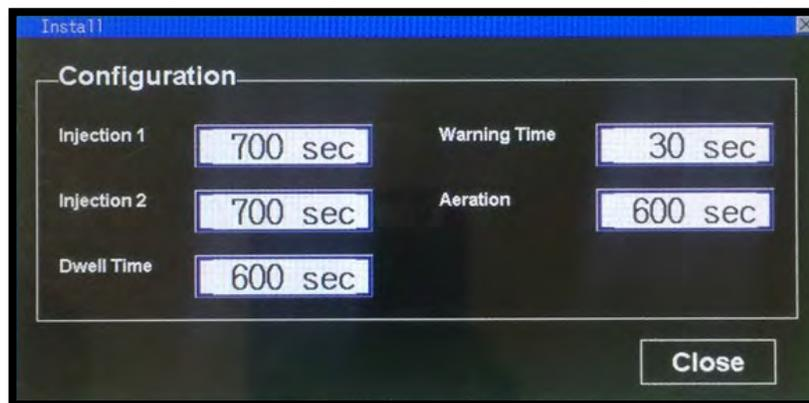

FIGURE 14
6.1.3 Tap the white dialog boxes to input the time for each stage of the process (Figure 14).